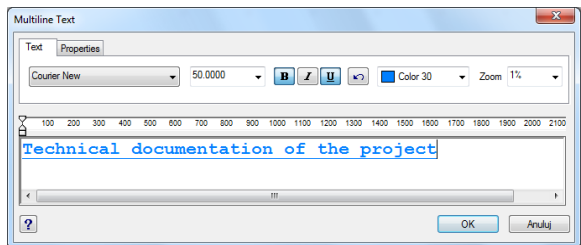

Fig. 55 - Multiline Text dialog box – Text tab
- In the **Text** tab (Fig. 55) enter text which you want to be displayed in the design or documentation, and then click **OK**.